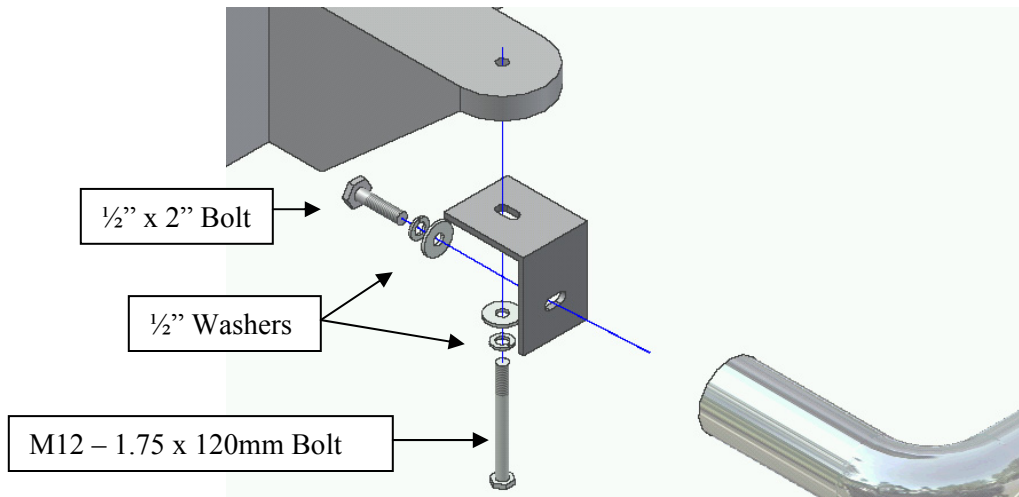

Figure 1.2 – Front Bracket
2. From underneath truck, loosen and remove body mount bolts that run upward through mounts into floorboard. Attach and secure Front Mount Bracket to underside of vehicles front body mount (see Figure 1.2) with (1) M12 – 1.75 x 120mm bolt (For 07 Model, use the factory bolt on the vehicle), (1) ½" split lock washer, and (1) ½" flat washer. Hand Tighten.